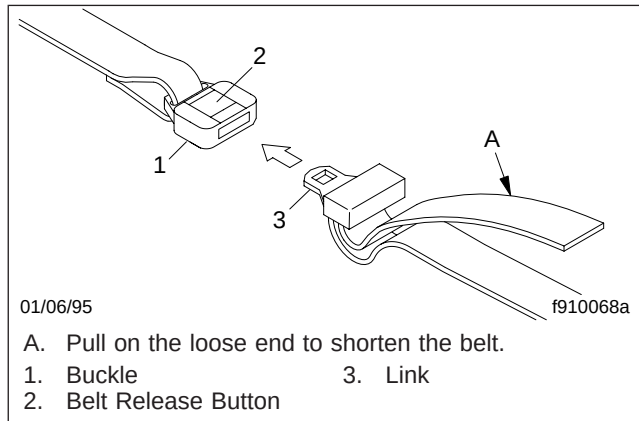

Fig. 5.10, Bunk Restraint Adjustment
3. After the belt is connected, shorten it by pulling on the loose end until the belt is snug, but comfortable. Be sure the belts are not twisted. See Fig. 5.10.